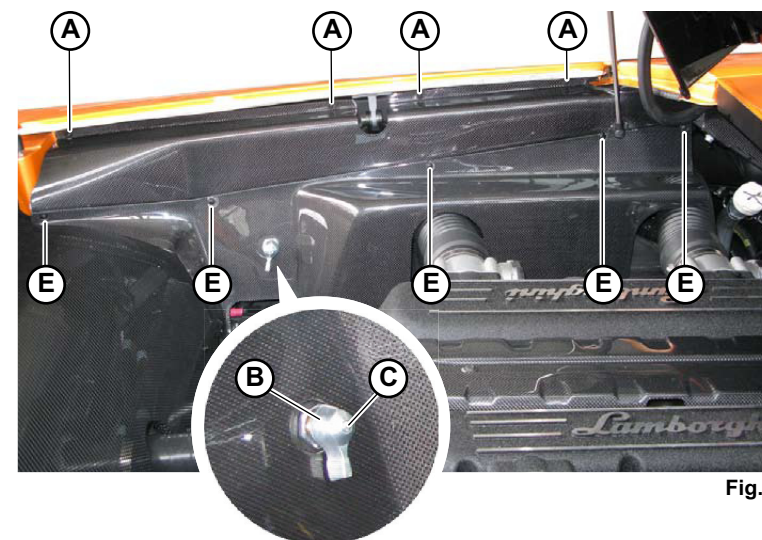

Fig.3
1. Unscrew the 4 top screws (A-Fig.3).
2. Detach the knob (B-Fig.3) by unscrewing the central screw (C-Fig.3).
Each of the 2 side panels is divided into two parts: an upper part and a lower part connected to each other with 4 screws (E-Fig.3/4).